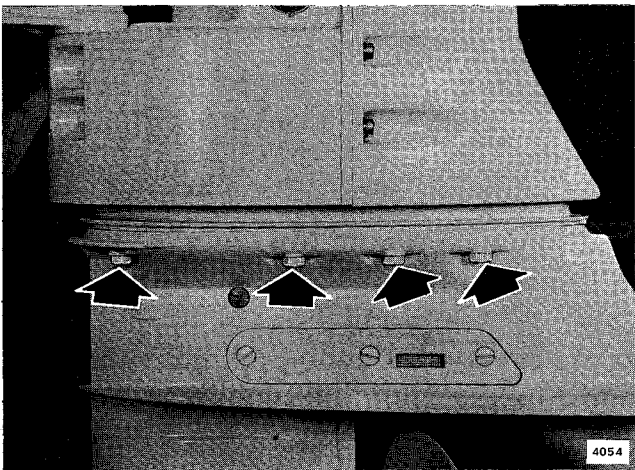

Figure 6-7. Removing Gearcase Screws
- d. Remove eight screws holding gearcase to outer exhaust housing or gearcase extension. See Figure 6-7. Remove upper and lower gearcase assembly and shift rod from exhaust housing, taking care to avoid damaging driveshaft which extends upward to the power head.